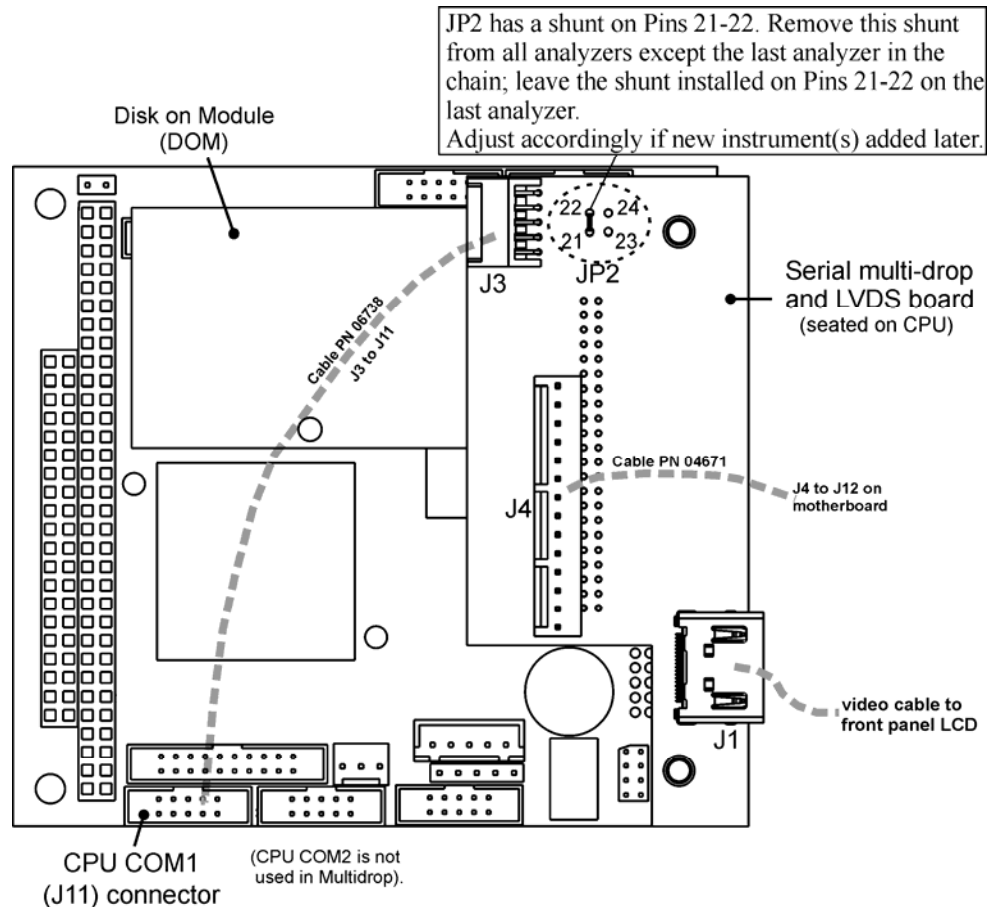

Figure 3-14: Jumper and Cables for Multidrop Mode
In each instrument with the Multidrop option there is a shunt jumpering two pins on the serial Multidrop and LVDS printed circuit assembly (PCA), as shown in Figure 3-14. This shunt must be removed from all instruments except that designated as last in the multidrop chain, which must remain terminated. This requires powering off and opening each instrument and making the following adjustments:
2. On the Multidrop/LVDS PCA's JP2 connector, remove the shunt that jumpers Pins 21 ↔ 22 as indicated in Figure 3-14. (Do this for all but the last instrument in the chain where the shunt should remain at Pins 21 ↔ 22).
3. Check that the following cable connections are made in *all* instruments (again refer to Figure 3-14):